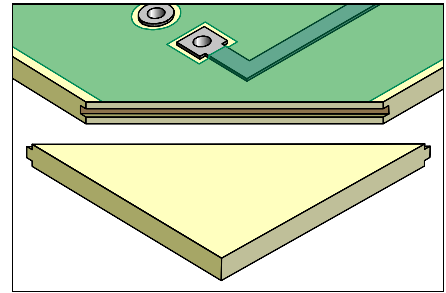

Figure 4: Check fit of new base material. The tongue must mate with the groove in PC board.
8. Check the fit to be sure the new base material properly mates with the groove in the PC board. (See Figure 4).